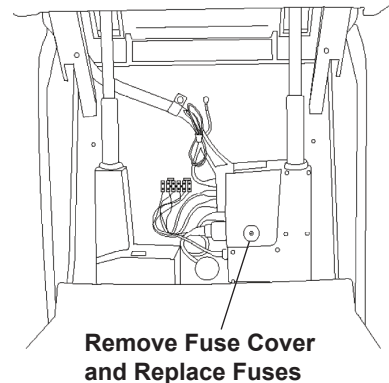

Figure 25.
3. Locate fuse cover on control box. (See Figure 25.)